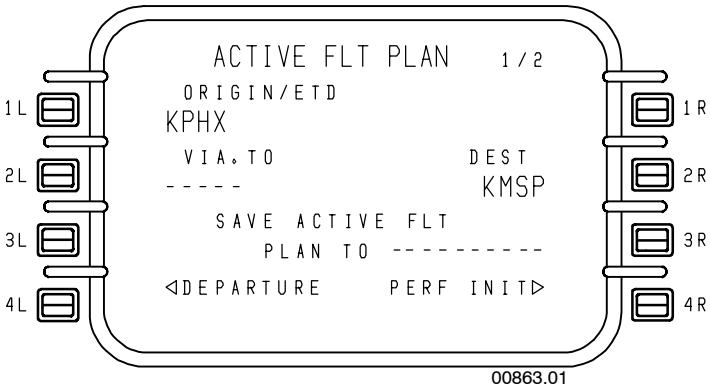

Figure 7-13
- Storing of Active Flight Plan** – The active flight plan can be stored in memory for future use. This can be done at any point during entry of the active flight plan. As shown in Figure 7-13, a prompt is shown below the destination at 3R. Entering the flight plan identifier will result in the FMS displaying the flight plan on the stored flight plan pages to allow modification.